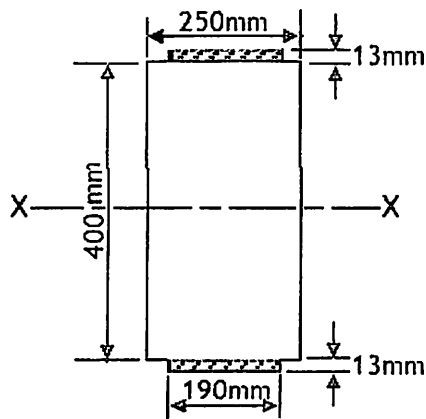

Figure Q7B
- (b) A composite beam consists of a 400 mm x 250mm timber joist strengthened by the addition of two steel plates 190 mm x 13 mm, as shown in **Figure Q7B**. The safe stress in the timber is 6.5 N/mm², the safe stress in the steel is 175 N/mm² and modular ratio, $n = 20$.